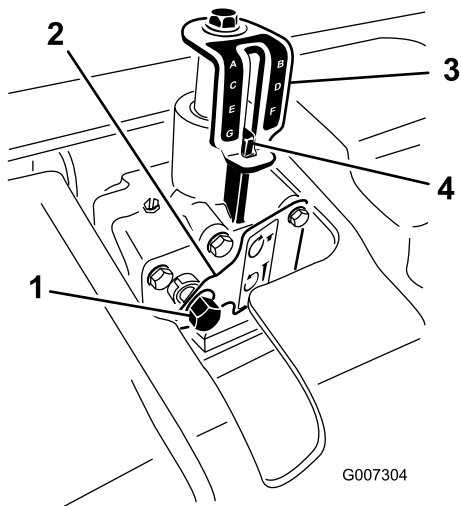

Figure 17
Rotate the depth adjuster input shaft clockwise (CW) to reduce the aeration depth or rotate counter clockwise (CCW) to increase the aeration depth (Figure 17).